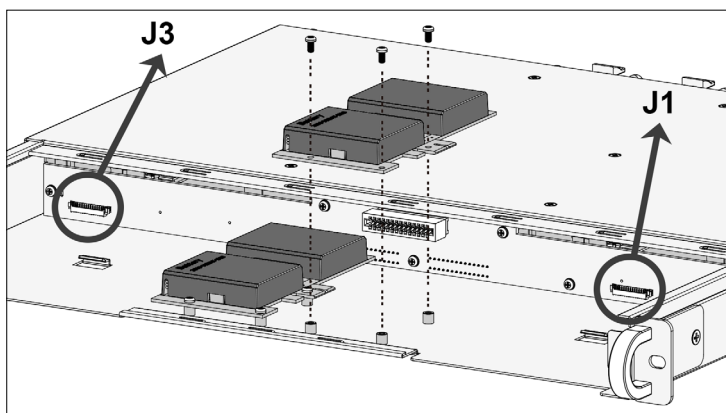

Figure B-7, Installing the FBM module
3. Use three screws that are provided to secure the FBM module onto the enclosure, as shown in Figure B-7.